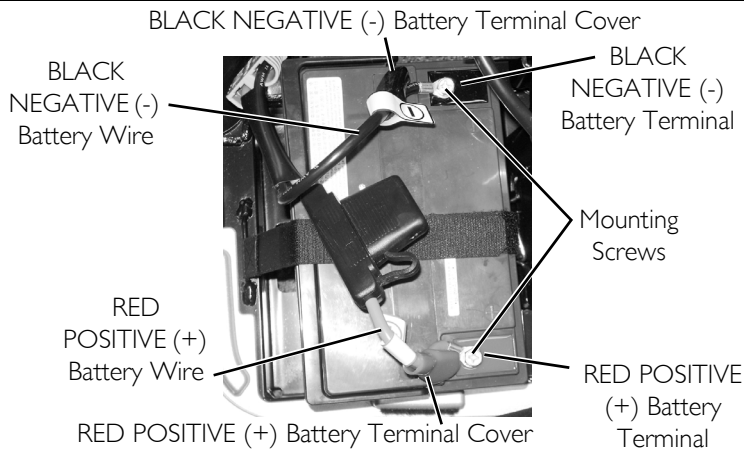

FIGURE 10.2 Removing/Installing the Batteries
When connecting the battery cables to the batteries, the battery cables **MUST** be connected to the battery terminals/posts as shown in FIGURE 10.2 - otherwise damage to the battery may result.
For this procedure, refer to FIGURE 10.2 on page 49.
3. Pull up to remove the rear cover (Detail “A” of FIGURE 10.2).
4. Open the battery retention strap (Detail “B” of FIGURE 10.2).
6. Remove the batteries from the base frame (Detail “C” of FIGURE 10.2).
7. Pull the battery terminal covers up on the battery wiring harnesses to expose the mounting screws (Detail “D” of FIGURE 10.2).
1. Connect the battery wiring harnesses to the new batteries (Detail “D” of FIGURE 10.2). Use the mounting screws to secure the:
3. Install the two new batteries into the base frame (Detail “C” of FIGURE 10.2).
Orient the batteries as shown in Detail “B” of FIGURE 10.2.
The battery retention strap should go under the battery harnesses as shown in Detail “B” of FIGURE 10.2.
6. Install the rear cover (Detail “A” of FIGURE 10.2).